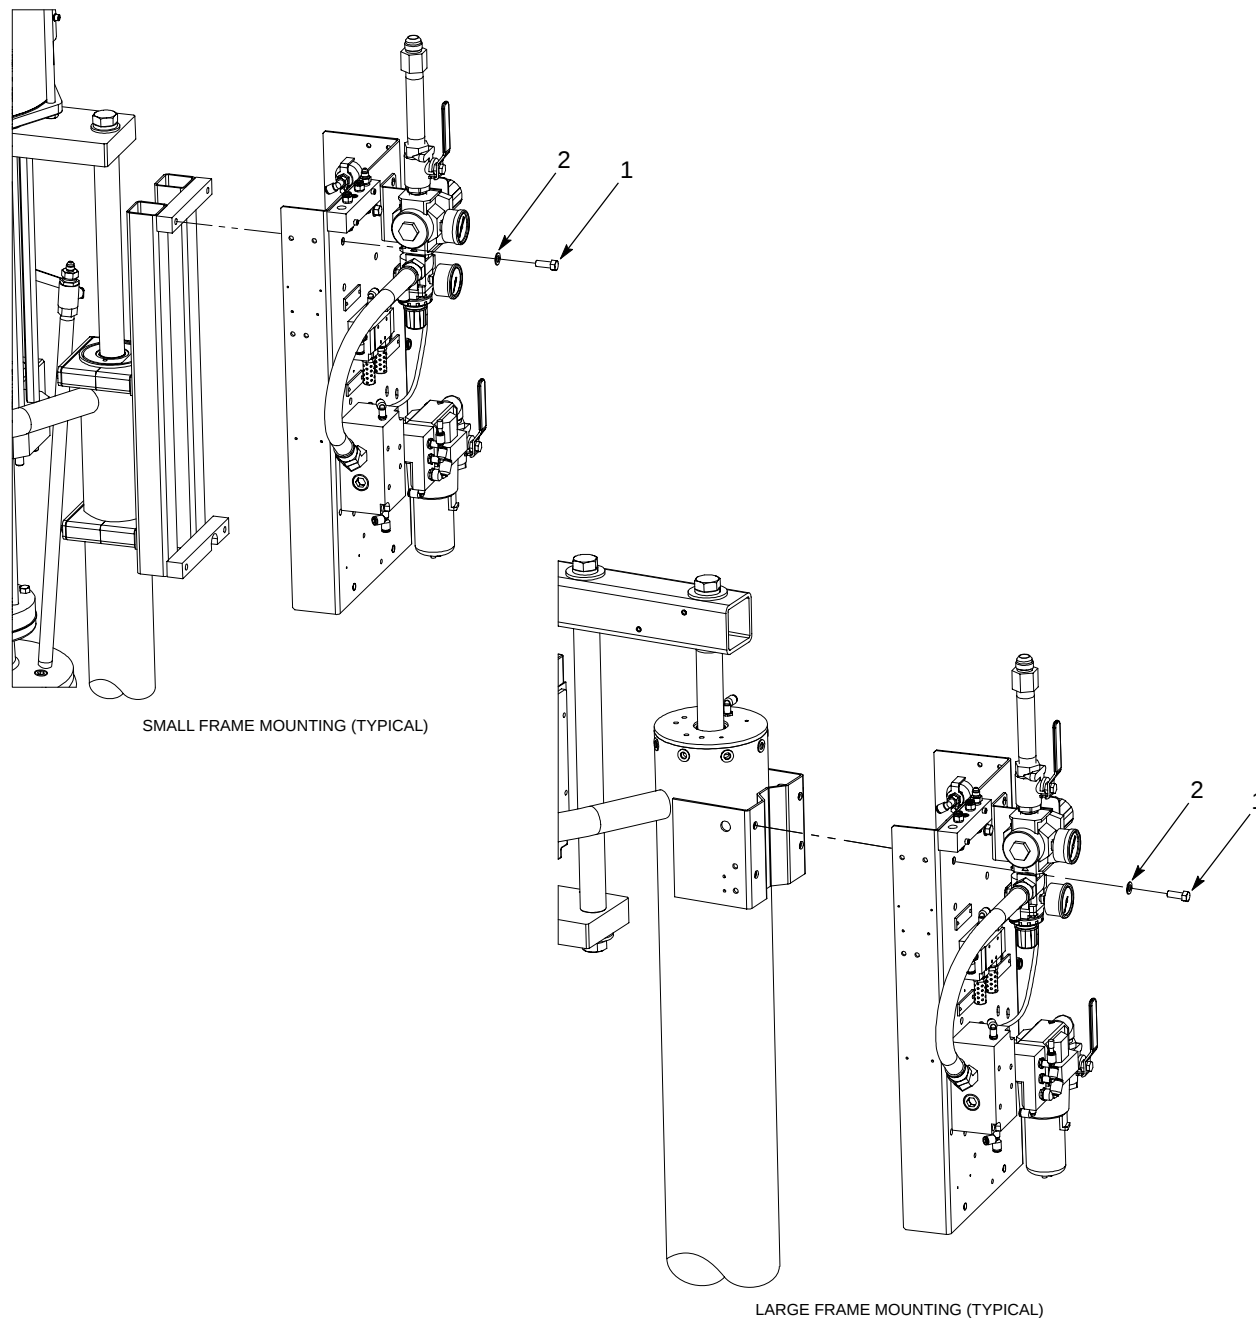

Figure 3 Installing the Control Module
See Figure 3. Mount the Control Module onto the bulk unloader using the supplied screws (1) and washers (2). Tighten the screws securely.